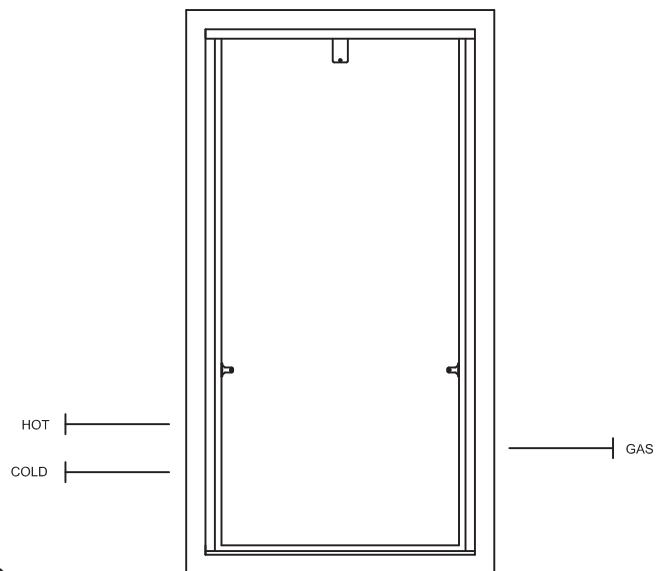

Figure 2: Piping Locations.
- The recess box is supplied with 4 pre-punched holes on the sides to allow for gas and water piping. Suggestions for the locations of the piping are shown in Figure 2. Smaller holes are provided for electrical wires on each side. Additional holes can be drilled in the recess box to accommodate piping or electrical connections.